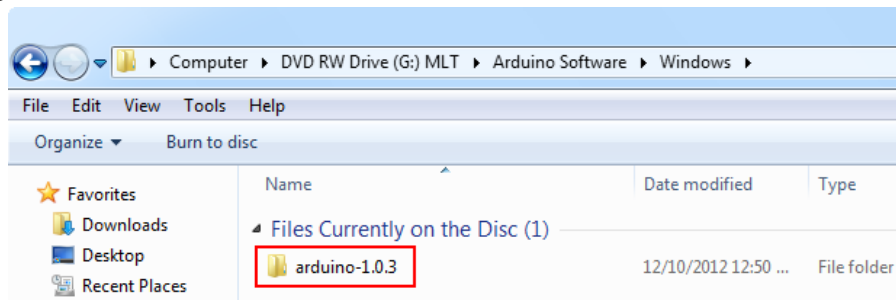

Figure 5.
2. Copy Arduino Software from a free CD is choose folder “Arduino Software\Windows\arduino-1.0.3” into drive “C:\Program Files” as figure 5.